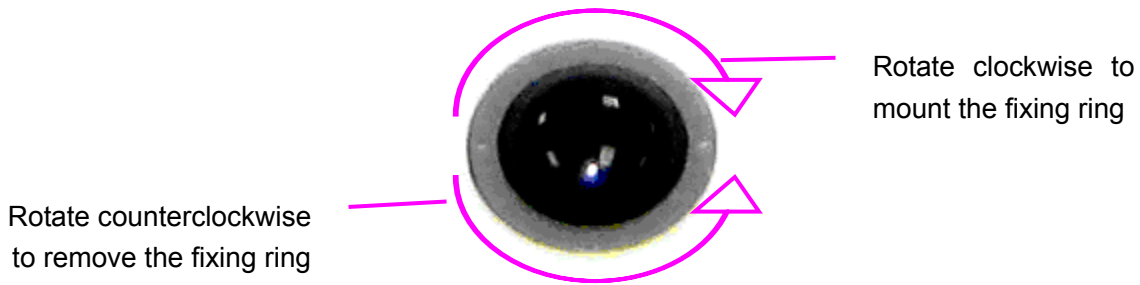

Figure 13-4 Assembling and Disassembling Trackball
2. Remove the trackball as shown in figure 13-4.